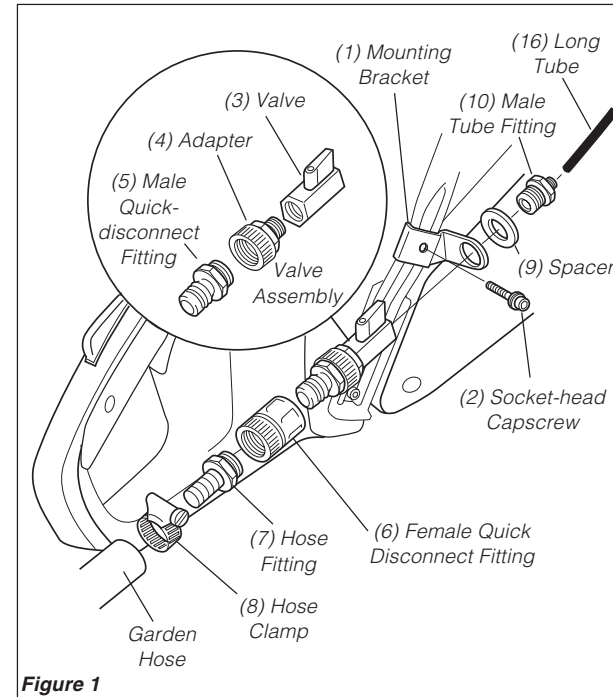

Figure 1
Index Numbers correspond to call out numbers in Figures 1 and 2 of the previous page.
1. Remove the existing socket-head capscrew from the upper right-hand saw handle mount, then attach the mounting bracket (1) using the socket-head capscrew (2) provided with the Kit. See Figure 1.
2. Position the valve assembly (3, 4, 5 ass'y) and spacer (9) to the mounting bracket and secure it with the male tube fitting (10). Make sure the valve handle is positioned up. See Figure 1.